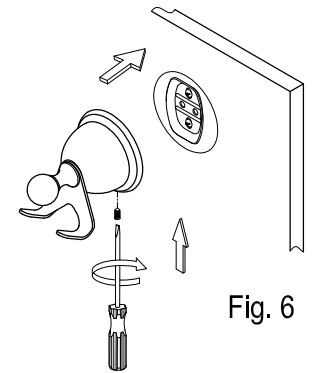

Fig. 6
Step 5. Place the unit, with the small hole in the base underneath, over the mounting plate by tightening the slotted set screw with a flathead screwdriver until the base is tightly fixed (fig 6).